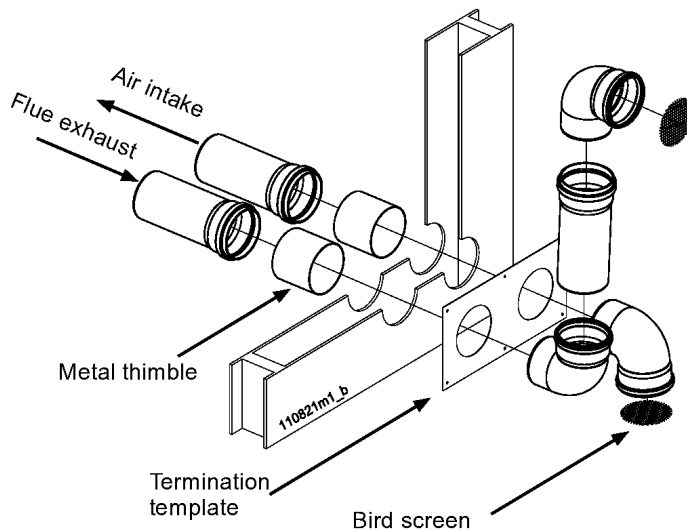

Figure 10-18 Two pipes sidewall termination assembly
- b. Insert a galvanized metal thimble in the vent pipe hole as shown in Figure 10-18.